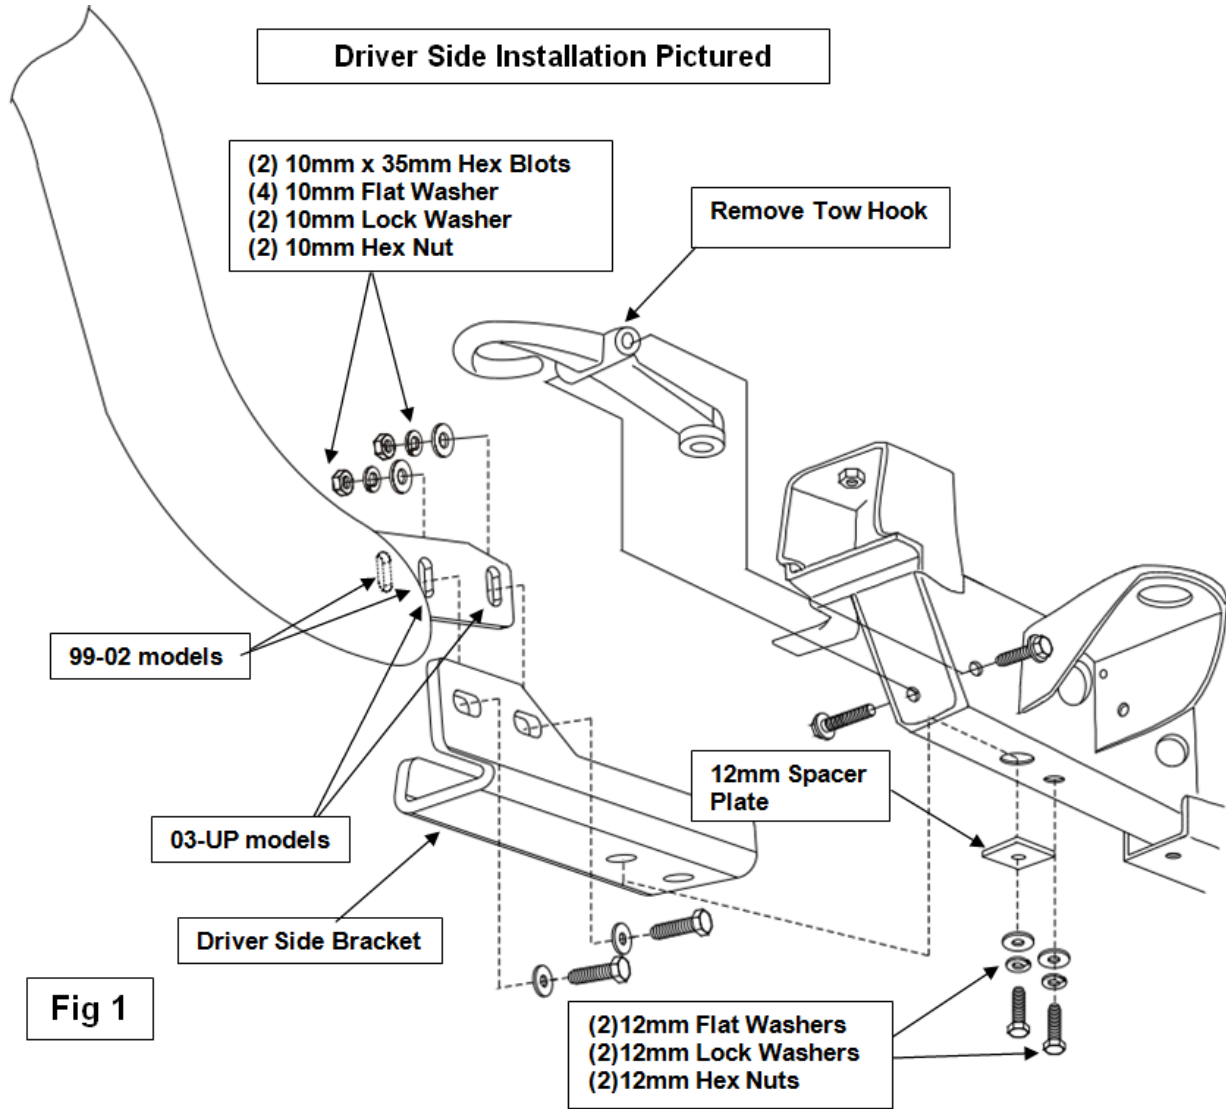

Fig 1
- Determine passenger and driver brackets. From underneath vehicle, remove tow hooks. Slide brackets through end of frame and align holes in bottom of frame with the two nuts welded to the brackets. Attach brackets to frame rail with 12mm fasteners as shown. **NOTE:** Use one spacer plate for large hole in bottom of frame as shown. Leave loose. **NOTE:** For vehicles without tow hooks a small opening may need to be cut out in the two inside indents of the air dam using a utility knife. **(SEE Figure 1).**